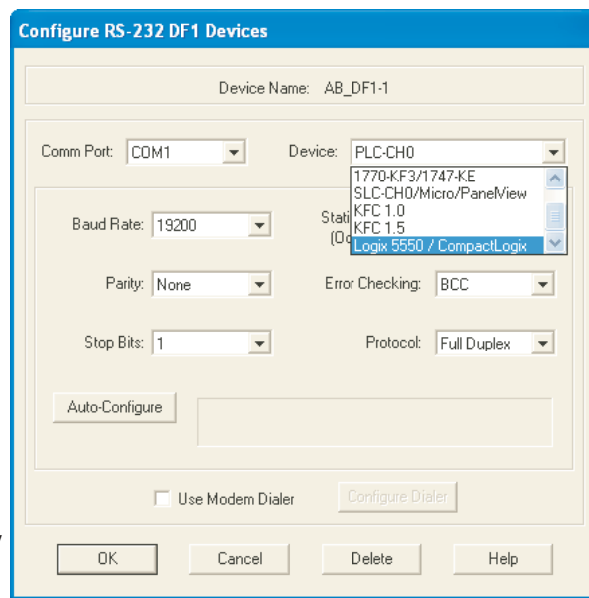

Figure 4.3.21e Configure RS-232 DF1 Devices
3. Click on 'Add New' and enter a suitable Driver Name in the pop-up window that then appears. Click on 'OK'. The 'Configure RS-232 DF1 devices' window opens (figure 4.3.21e).